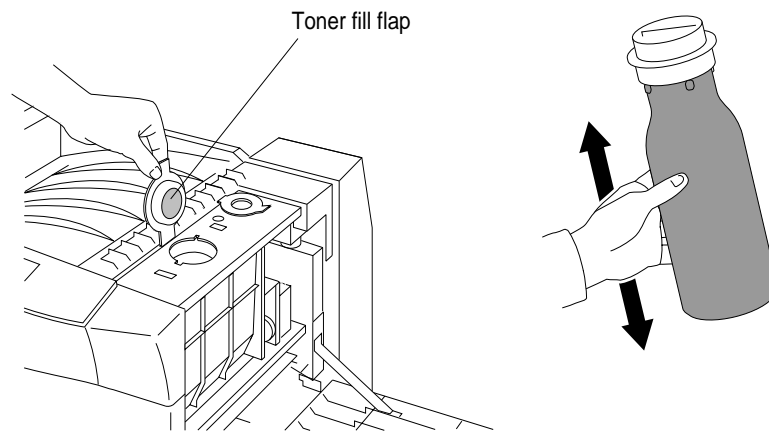

Figure 4-2 Opening the Toner Fill Flap and shaking the Toner Bottle
5. Open the toner fill flap (front flap), as shown in Figure 4-2.